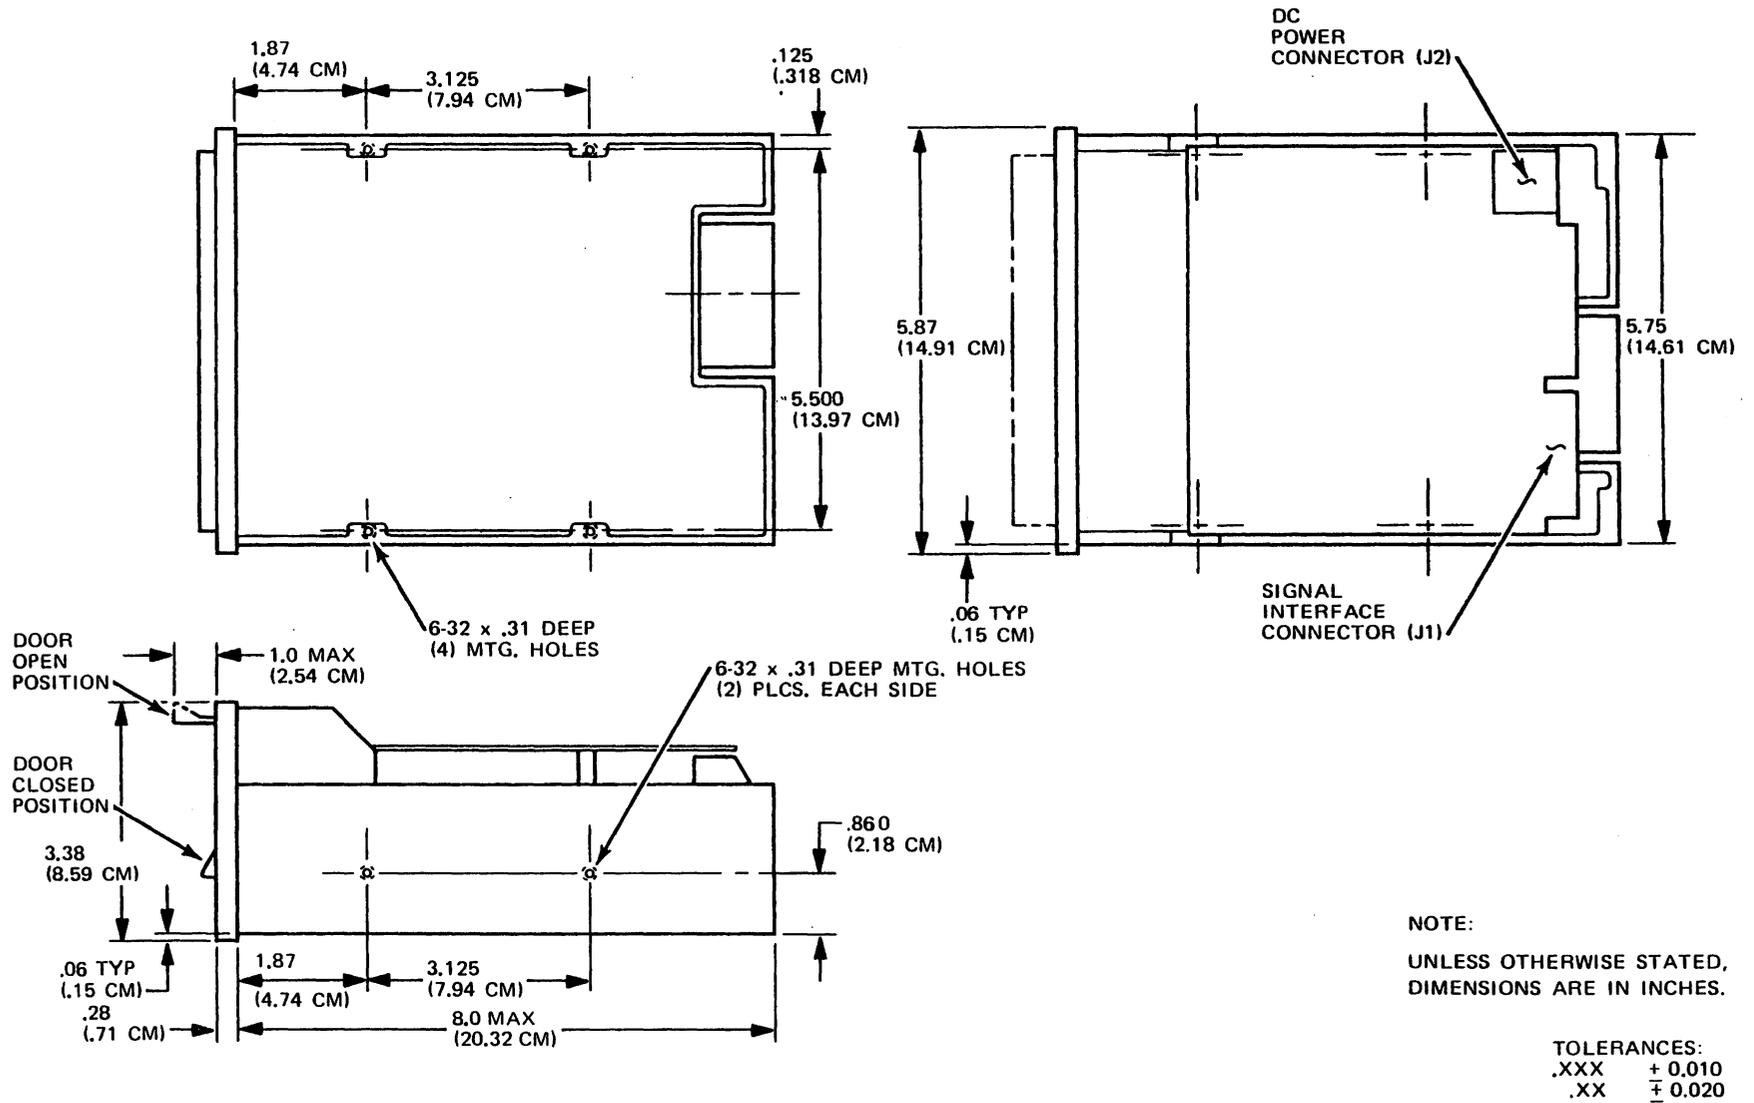

Figure 2-2. Outline and Mounting Dimensions
- C. Vertically, with the door opening upwards. Figure 2-1 is an isometric view, and Figure 2-2 shows the outline and mounting dimensions.